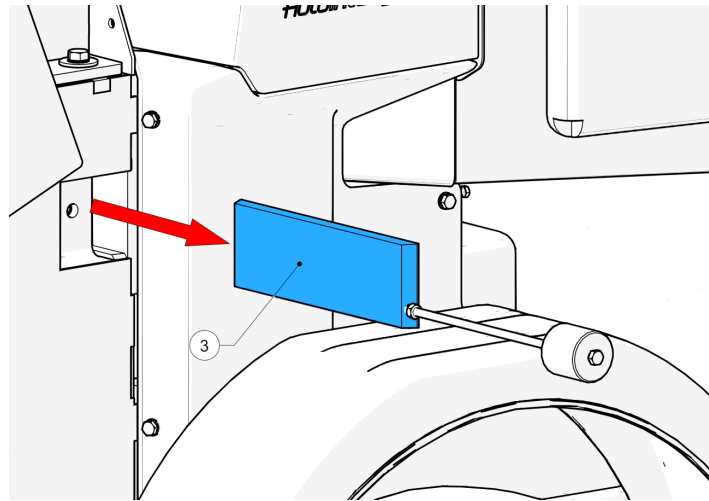

Figure 66 - Anvil removed
10. Using the slide hammer, extract the anvil (3, Figure 66) through the side of the chamber.